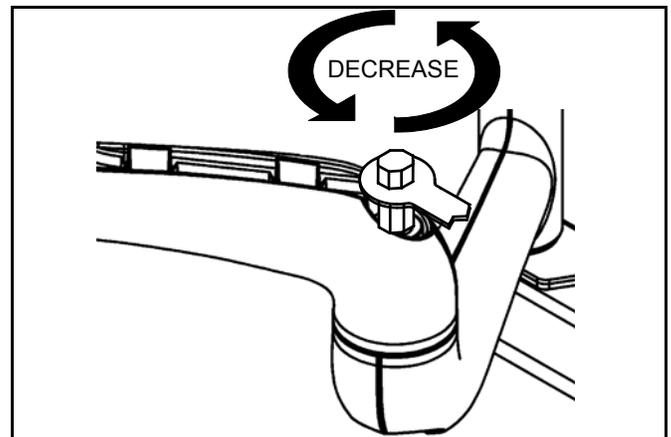
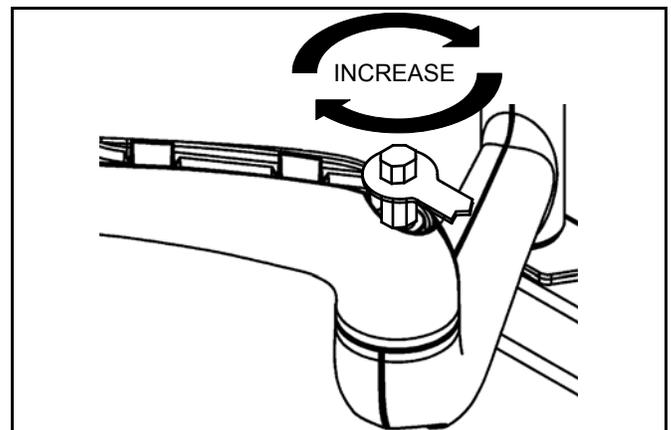

Figure 11
Figure 12
4. Using the adjustment wrench (D), turn adjustment bar (C) clockwise to increase swing arm tension or counterclockwise to reduce swing arm tension. (Small adjustments of 1/8 turn or less are typically all that is required to achieve desired tension.) (See Figure 11) and (See Figure 12)